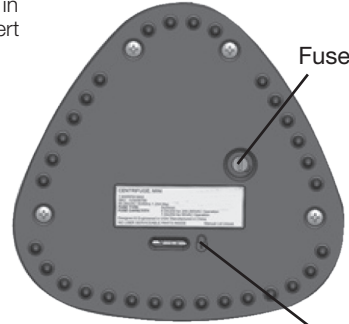

Figure 1
8. The Microcentrifuge lid is secured by two locking pins that prevents accidental lid opening during operation and greater safety for the operator. When the Centrifuge has completed the spin cycle, an automatic lid unlock will occur. If the lid does not open, press and hold the button on the front of the unit for one full second, the Centrifuge will unlock the lid again. Should the lid fail to open by pressing the front button or in the event that the power to the Microcentrifuge is interrupted, the Microcentrifuge lid can also be opened manually by inserting a flat head screw driver into the bottom of the unit and moving the release lever to the right. This will release the pins and allow the lid to open. See Figure 1, page 6.